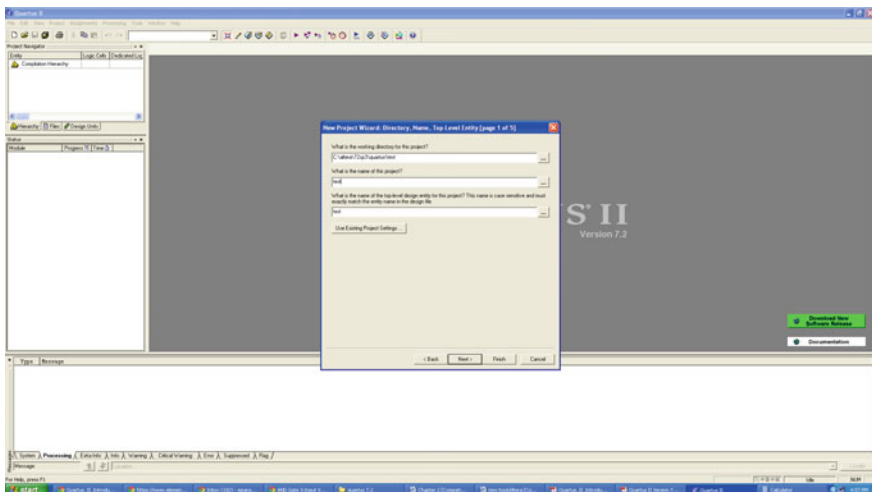
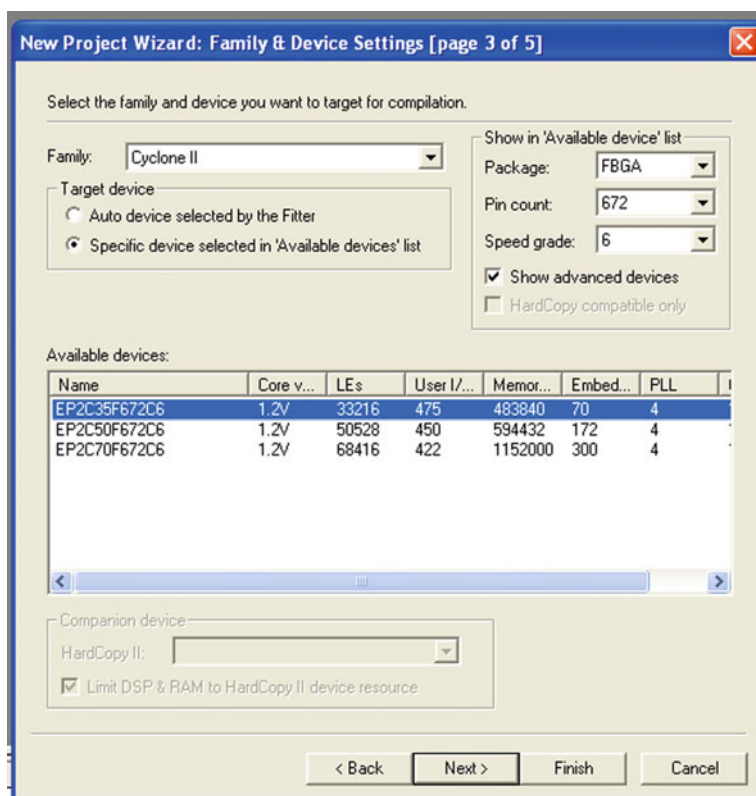

Fig. 2.2 Top level entity design name
Fig. 2.3 Select FPGA device
- (1) Goto Start > All programs > Altera > Quartus II 7.2 sp3 web edition the following window appears.
- (2) Once the licensing setup is done, you can start working on Quartus by creating a project. Click on File → Create New Project wizard.
- (3) The window shown in Fig. 2.2 pops up and one has to enter the directory to save project files, then assign name to file and a project, and click Next. (Note: top-level entity name must be same as file name).
- (4) Then click Next in the following popup that comes, and it says directory does not exist. Do you want to create it? Say yes.
- (5) Next window appears which will ask you to provide filename, do not assign any file name at this point just click on next Fig. 2.3 appears which will ask you to select the FPGA Family and Target on your respective Development Board (Cyclone II EP2C35F672C6).